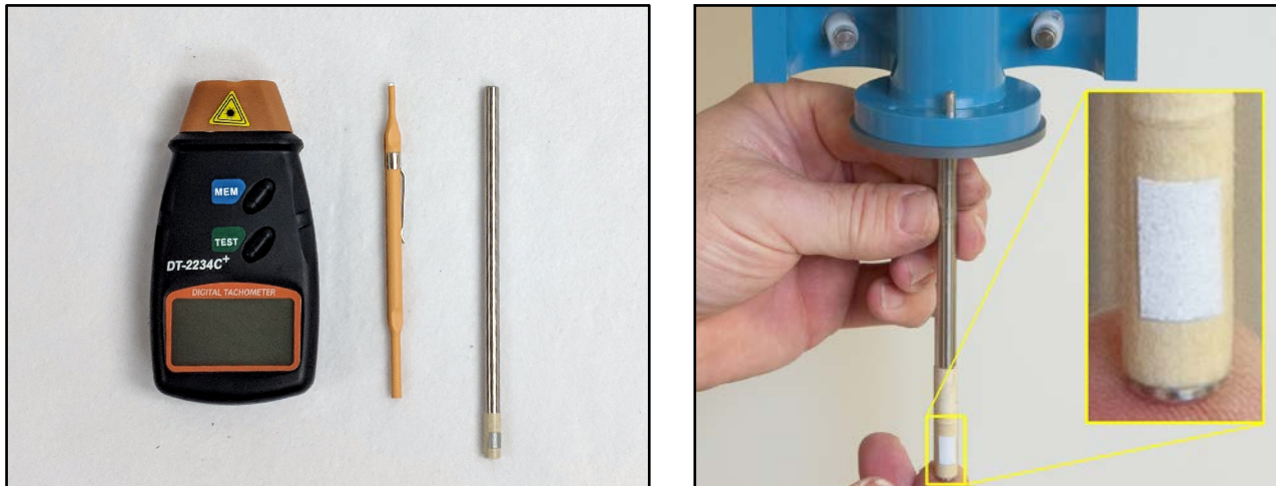

Figure 2-3. MSR Calibration Kit Tools (left) and Installation of Calibration Shaft (right)
4. While the power is switched off, install the tachometer target into the motor coupling on the motor unit. This target should be a metal rod with the appropriate diameter ($1/4"$ or 6.35 mm), which is included with the MSR Rotation Rate Calibration Kit (AKMSRCAL). Many tachometers require that a piece of reflective tape be attached to the end of the shaft, which has already been done to the calibration shaft included with the kit (see Figure 2-3).